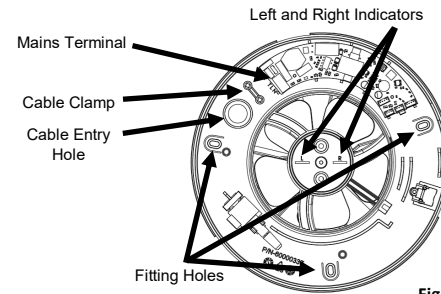
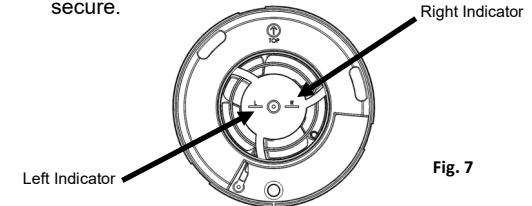

Fig. 6
Fig. 7
- Fit the sealing grommet supplied into the cable entry hole. (Fig. 6)
- Position the fan so cable entry and fitting holes align with those on the mounting surface. Feed through the cable and fit the fan. (Fig. 6)
- Make provision for the electric supply cable and wall plugs / appropriate fittings using the main body as a template. Level using guides below the L and R symbols. (see Fig. 6)
- To replace the IPX cover, line up the L (Left) and R (Right) indicators on the main body of the fan (Fig. 6) with the L and R indicator on the IPX cover (Fig. 7). Lightly press the IPX cover onto the main body.